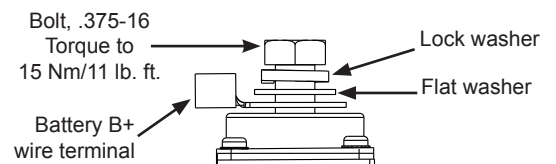

Figure 2: B+ Terminal Hardware Stacking Order
5. Connect vehicle B+ cable to alternator B+ terminal. Install hardware on B+ terminal in stacking order shown in Figure 2. Torque to 15 Nm/11 lb. ft.